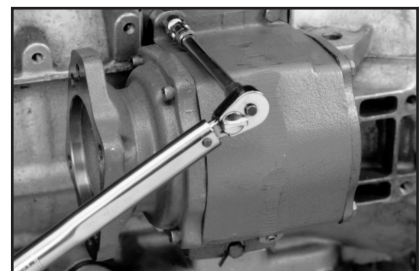

Figure 17
5. Place the PTO on the plate (**Fig. 17**). There are 5 (five) cap screws that hold the 272M and 272N to the transmission and plate. Make sure all 5 cap screws go through the plate and into the transmission.
6. All 5 cap screws can be tightened and torqued with a 3/8" drive socket wrench (**Fig. 17**). Torque all cap screws to 32-37 lb-ft [43-50 N-m].